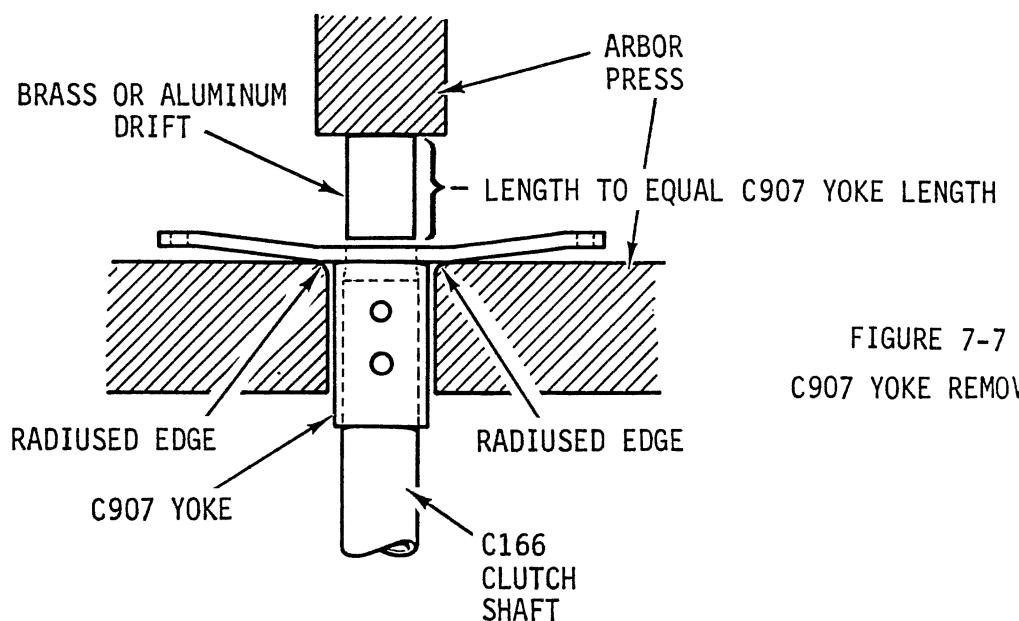

FIGURE 7-7
1. (Preferred method). If press is available, position clutch assembly in press per Figure 7-7. Ensure brass or aluminum drift fits against outer rim of clutch shaft and not against inner spacer. Press clutch shaft out of yoke.